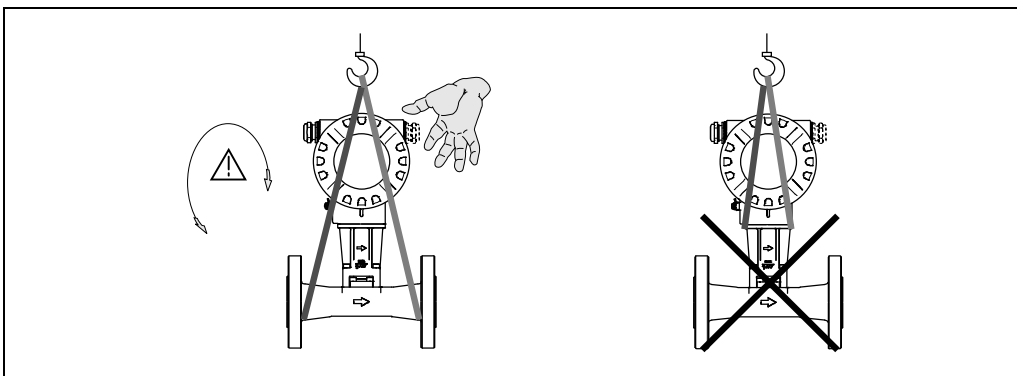

Figure 2
- Devices with nominal diameter 40 – 300 mm (DN 40 – 300, 1½” – 12”) must not be lifted at the transmitter housing (*compact version*) or at the connection housing (*remote version*) when transporting (see Fig. 2). Use carrier slings when transporting and put the slings around both process connections. Avoid chains as these could damage the housing.